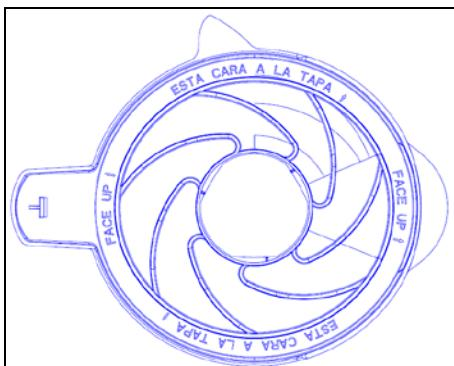
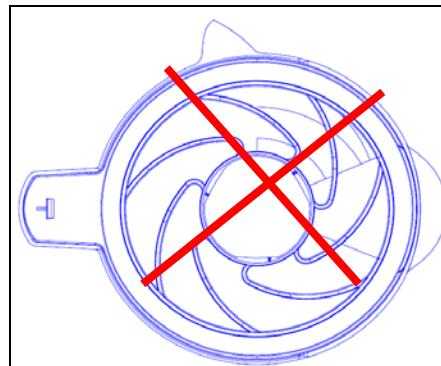

Figure 15
Figure 16
1. SS jar cover: To cover the jar. A sealed ring inside can avoid the food, soup or vapor spil ;When assemble the seal ring "ESTA CARA A LA TAPA↑,FACE UP ↑"the warning words should be faced to consumer see below Figure 15,Otherwise, the liquid would be spilled.(Figure 16)